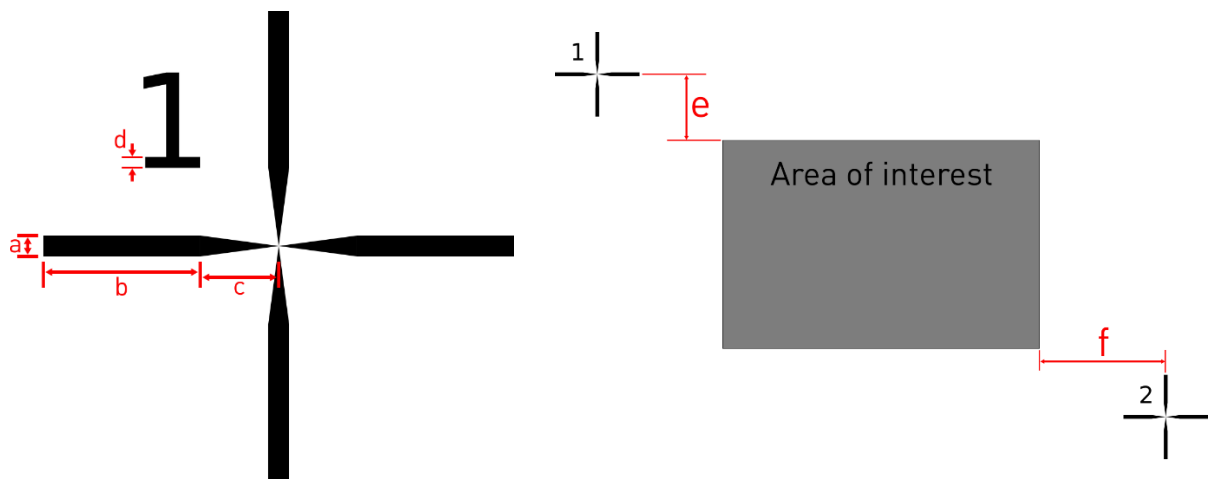

Figure 54 - Design rules. Left: focus on an alignment cross and its key dimensions. Right: cross positioning over the substrate
- Two alignment crosses surrounding the area of interest and located at two opposite corners from each other (Figure 54 right). For each design, the crosses must be at the same relative position.
- Add a unique number to each cross (Figure 54 left) to avoid wrong substrate orientation.
Table 1 - Suggested dimensions for the design in Figure 54